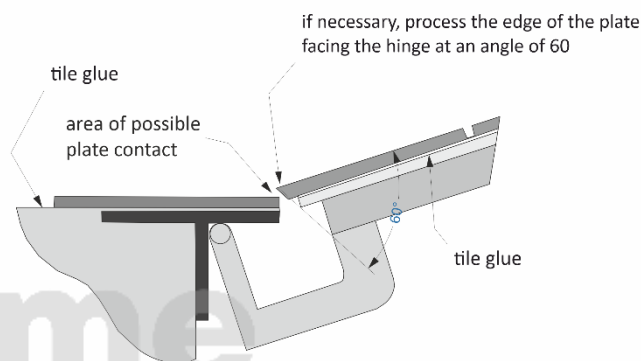

Fig. 2
The permissible "overhang" of the tile beyond the hatch cover (Fig. 2) on the hinge side is no more than 20 mm (about 0.79 in) (to avoid breaking the tile on the hatch cover when opening it), on the other three sides no more than half the width of the frame (item 1) (Fig. 1).
7. File the cover tiles (facing material) on the hinge side and on the lock side at 60° so that the edge of the tile does not touch the edge of the floor tile when opening (Fig. 2).
IMPORTANT! The thickness of the floor covering (including the underlay or adhesive layer) should be no more than 15 mm (Fig. 2)
9. After the glue has hardened, shorten the screw (first unscrew it) to align its upper edge to the tile level (Fig. 2)